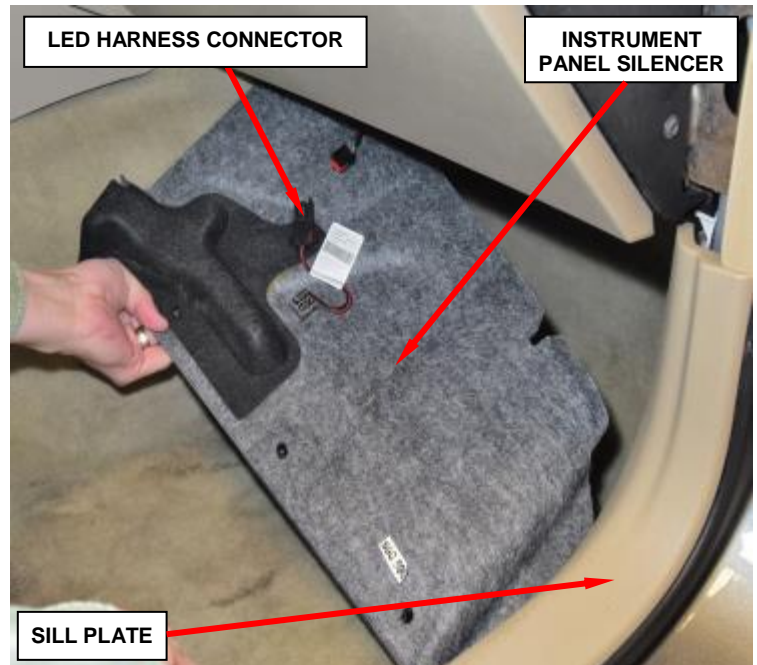

Figure 59 – Instrument Panel Silencer
- b. Remove the right side sill plate (Figure 59).
- c. Remove the three pushpins that secure the instrument panel silencer to the instrument panel (Figure 59).
- d. Disconnect the harness connector(s) and remove the right side instrument panel silencer (Figure 59).